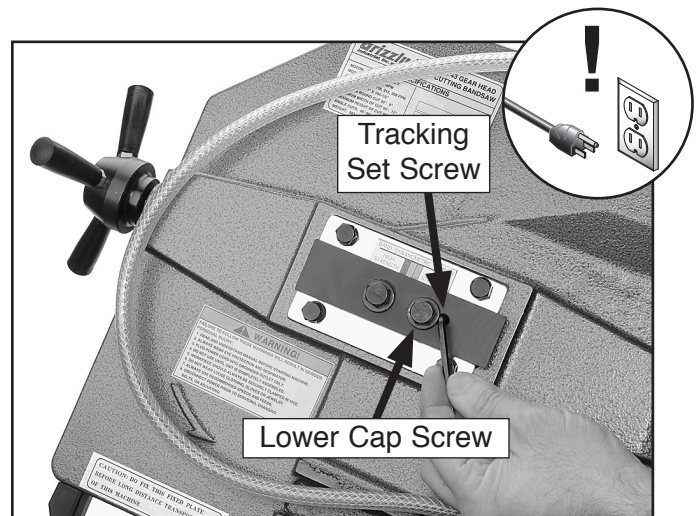

Figure 37. Adjusting tracking set screw.
5. Loosen, but do not remove the lower cap screw in the blade wheel tilting mechanism (**Figure 37**).
7. Adjust the tracking set screw with a 4mm hex wrench as shown in **Figure 37**, then tighten the cap screw loosened in **Step 4**.